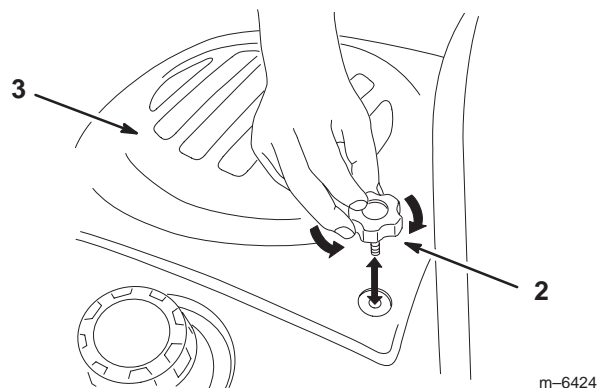

Figure 16
1. To remove the hood, loosen the knobs and then pull the hood back and up (Fig. 16).
3. Install the knobs into the engine hood (Fig. 16).